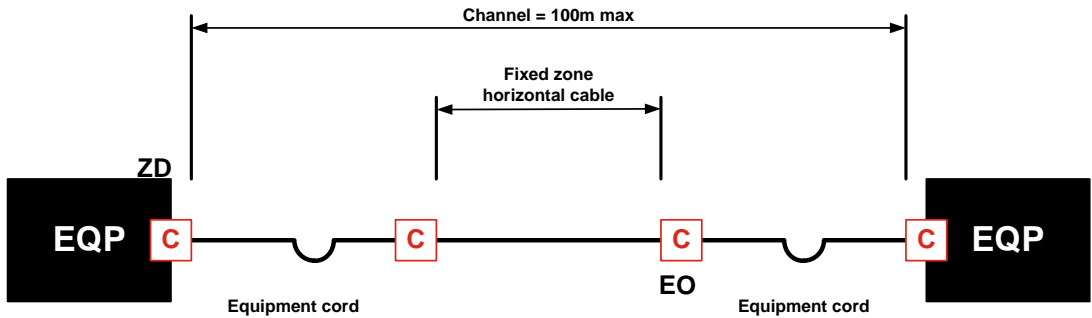

Figure 29: Interconnect-EO model
1) Class D with Screened Cat. 5e installation (STP) at normal temperature (Figure 29)